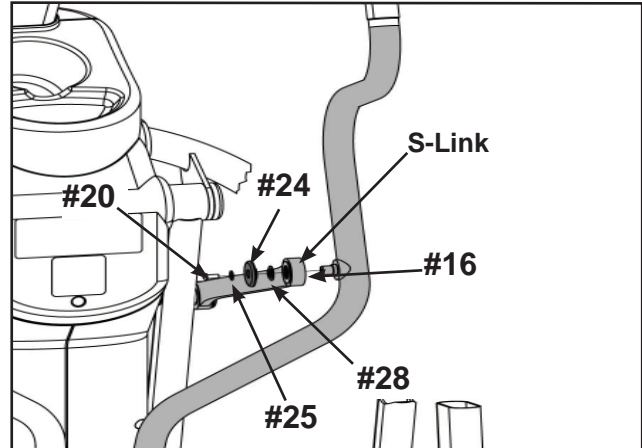

Figure 9
- A. Locate right S-Link on mainframe assembly. See Figure 9.
- C. Apply loctite (#16) to BHSCS and into where the screw will be threaded. See Figure 9.
- D. Lift right S-Link and using the 5/32" Allen Wrench (#26) provided, secure the S-Link to handrail using BHSCS (#20), washer (#25) end cap (#24) and spacer (#28) located in step 12B. See Figure 9.